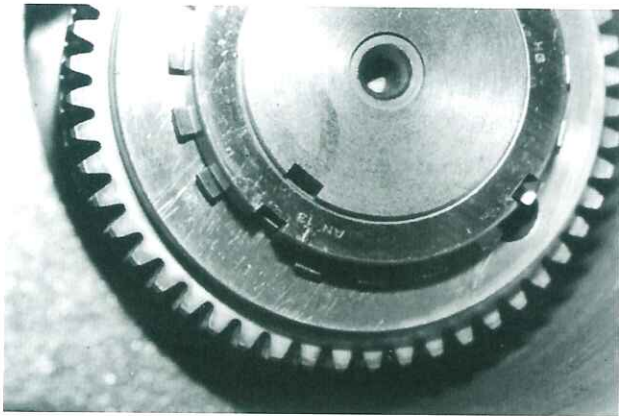

Fig. 60 Low-stage side Gear Coupling Hub
- 2) Straighten the claw on the drive gear lock washer and loosen the locknut (Fig. 60).